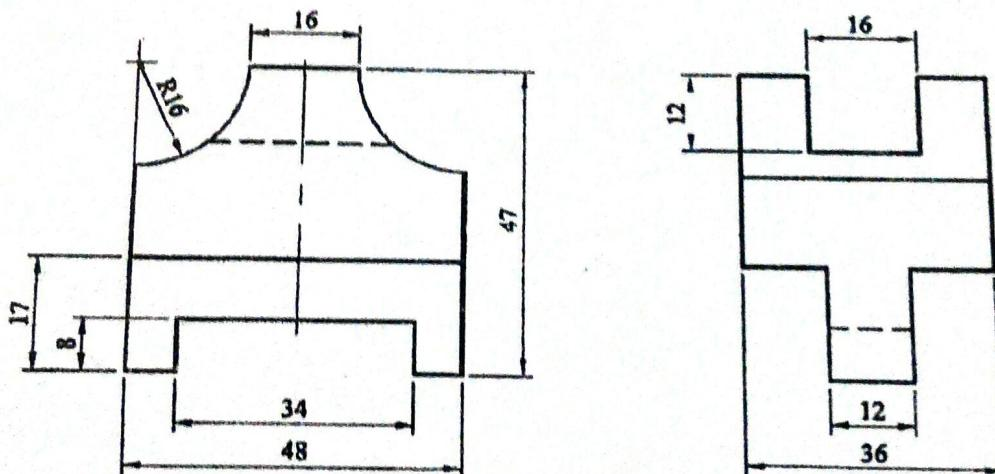

Figure 1
1. Draw an isometric view from the given orthographic views as shown in figure 1. [10]